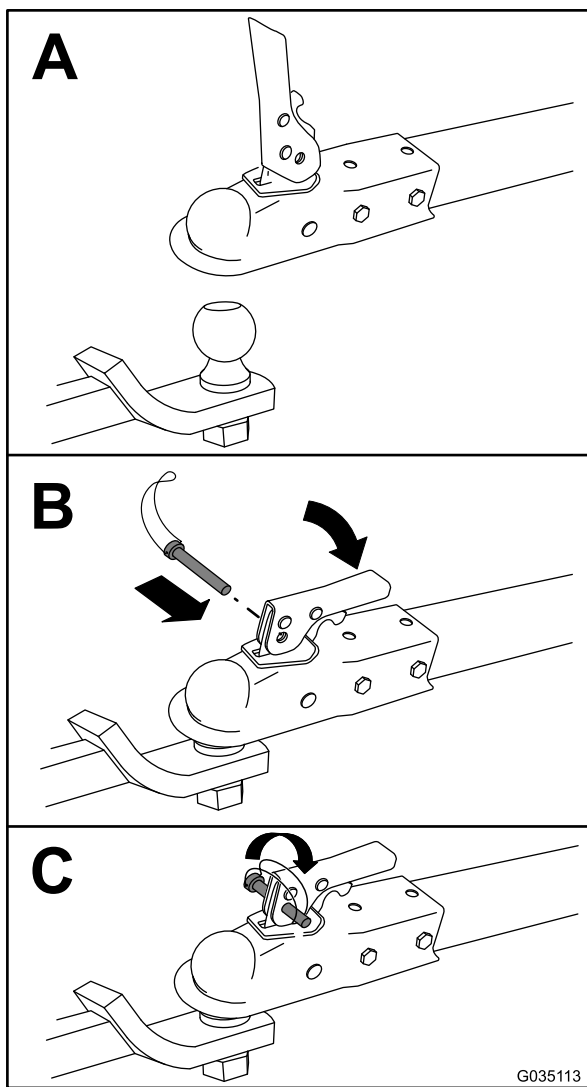

Figure 21
3. Hitch the machine as shown in Figure 21.